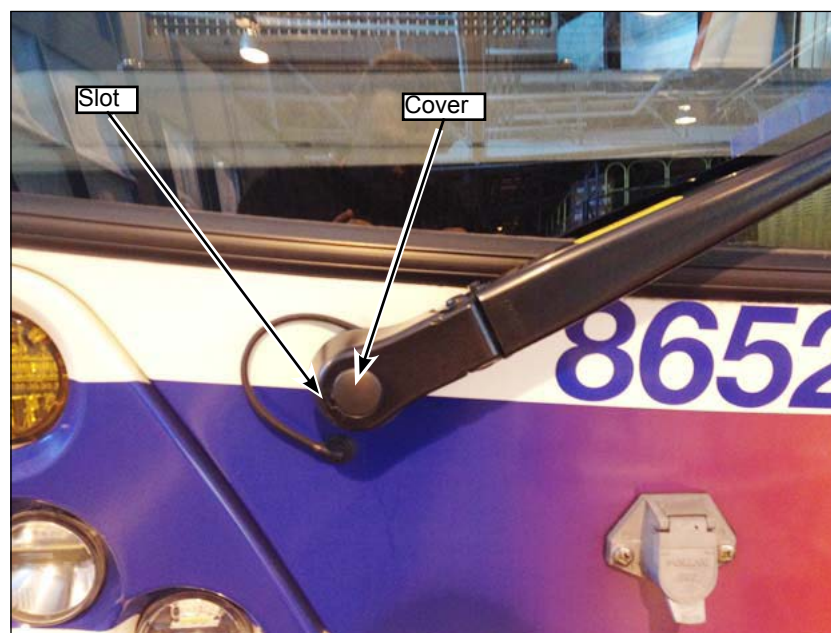

Figure 4 - Remove Windshield Wiper Hardware
- 1.4. Remove the windshield wiper hardware cover using a small flat-head screwdriver and prying the cover out using the slot in the wiper arm. Remove both sides and retain covers for reinstallation once repair is complete (see Figure 4).